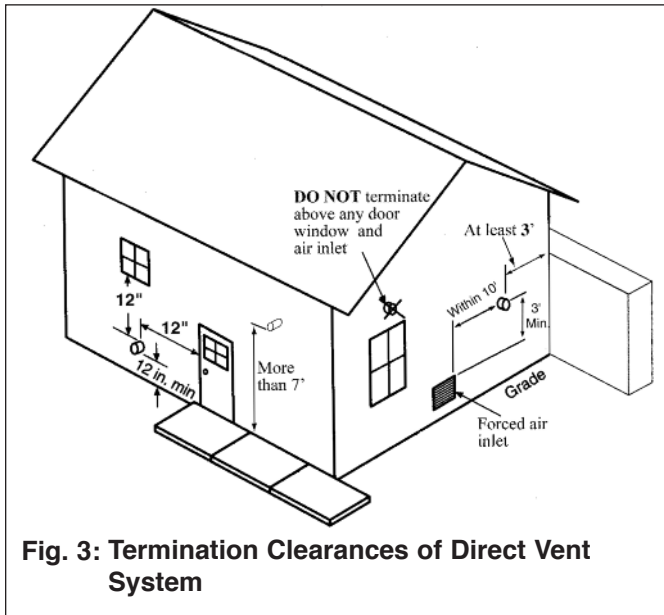

Fig. 3: Termination Clearances of Direct Vent System
6. The vent termination must also maintain the following clearances; as shown in Fig.3.
6. The vent termination must also maintain the following clearances; as shown in Fig.3, page 7.